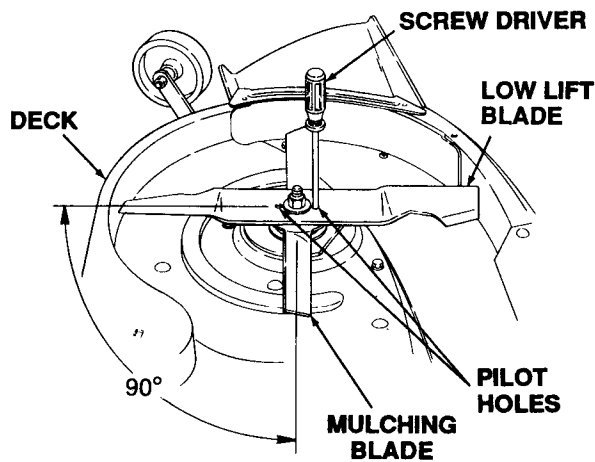

Figure 7-8. Using Pilot Holes To Align Blades.
- Align the pilot holes of the blades and adapters (the blades should be at 90° to each other) and insert a phillips screwdriver, drift punch, or similar type instrument through the pilot holes (see Fig. 7-8).